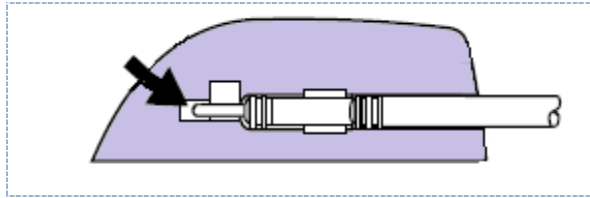

Figure 16:
- Push the lead terminal end into the lead cavity until the terminal pin (Tip) is visible in the lead viewing area. Sterile water may be used as a lubricant. Sealant is not required (see *Figure 16*).